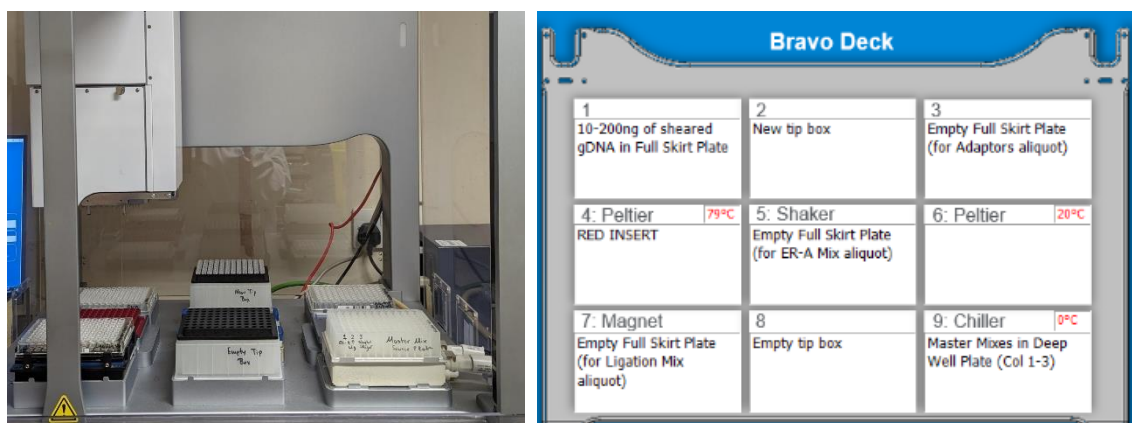

Figure 3. Example of the Bravo deck preparation and computer screen for protocol 01 LibraryPrep_XT_HS2_ILM.
2. Place all materials as on the right side of the Bravo form as on **Figure 3**.